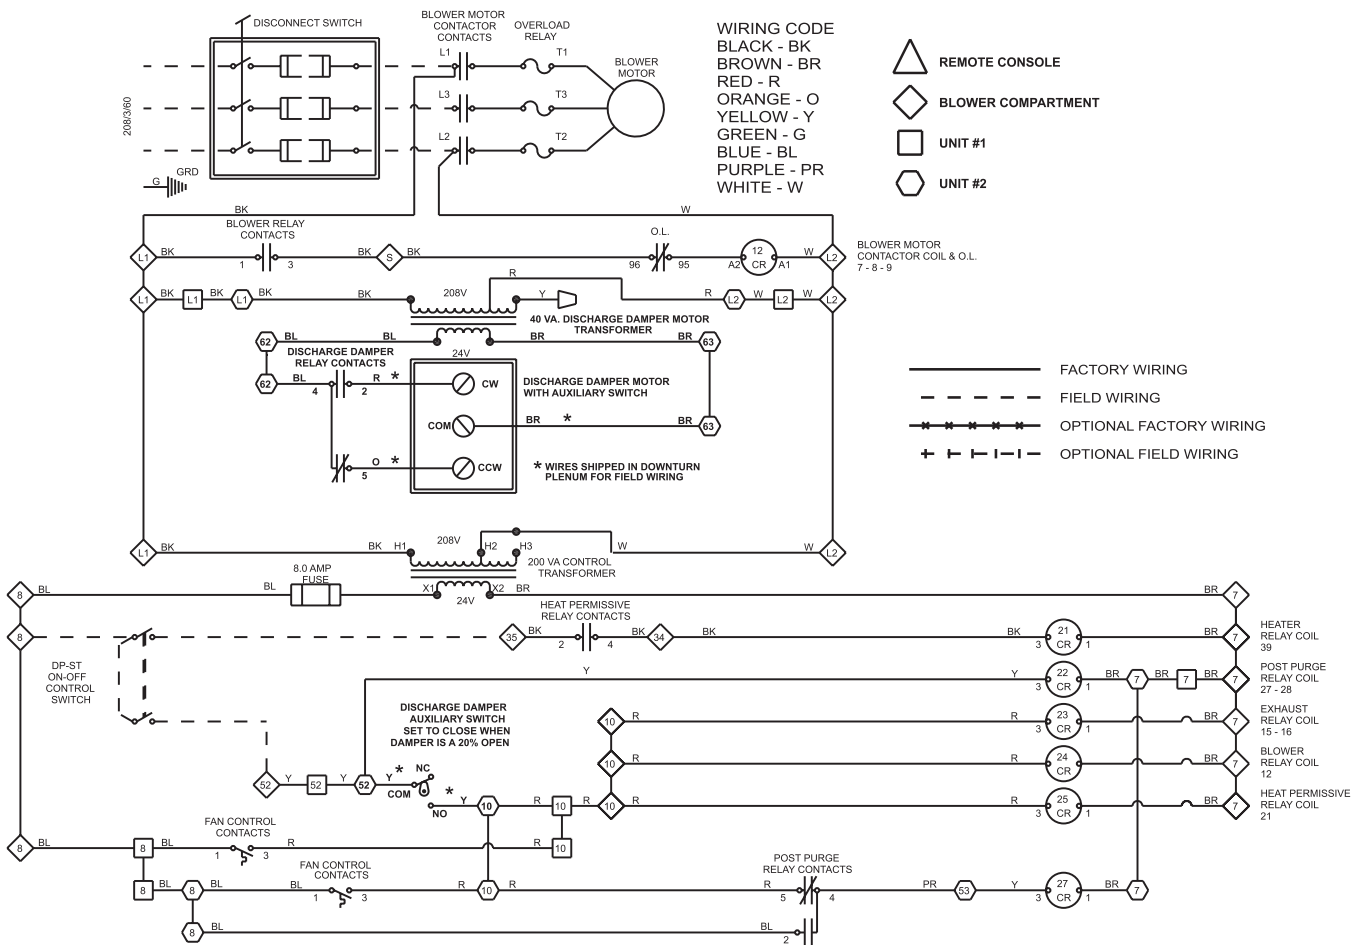

Figure 5. Wiring Hole Locations
- (1) Remove control side door on discharge plenum. Locate discharge damper motor with three wires long enough to reach furnace section.
- (2) On leg of downturn plenum next to cooling coil cabinet locate mounting screw shown in Figure 5, DETAIL A and measure up 6 inches (152 mm). Drill first 7/8-inch hole at same center line as mounting screw.
- (3) Remove cooling coil access panel(s).
- (4) Locate coil blockoff plate and measure up 4 inches (102 mm) from bottom of blockoff plate. Drill second 7/8-inch hole at that location at center point of blockoff plate. Hole should be approximately even with first hole drilled in downturn plenum leg.
- (5) On cabinet leg on entering air side of cooling coil cabinet, measure up 10 inches (254 mm) from bottom pan and then in 4 inches (102 mm) from edge. Drill third 7/8-inch hole at that location.
- b. On outside of furnace section where flanges were joined in step 4, locate three hole plugs and remove center plug to expose 7/8-inch hole in cabinet leg (see Figure 5, DETAIL B).